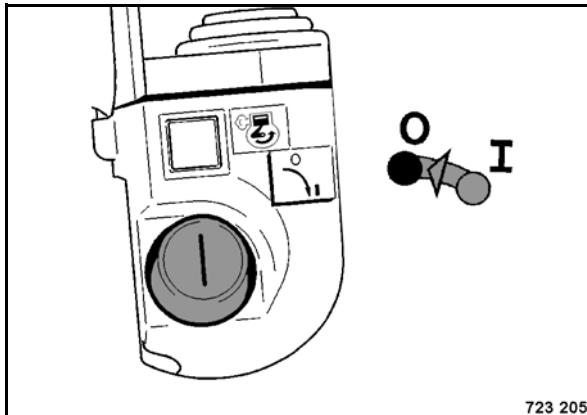

Fig. 53
- Turn the ignition switch (Fig. 53) to position "0".